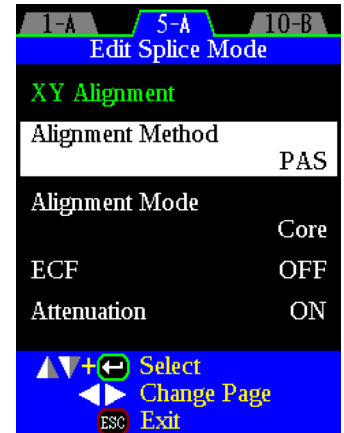

Figure 8 — XY Spatial Alignment
6. Proceed to the spatial and optical alignment settings in pages 5-A and 5-B (**Figure 8**).